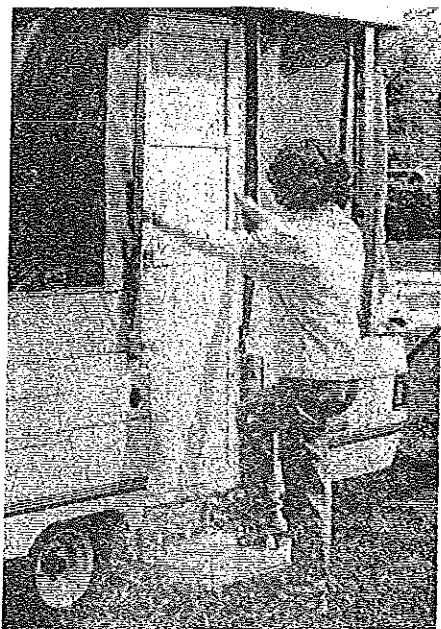

FIGURE 21
26. Grasping the door frame with both hands, one on either side, lower screen door into doorframe track at base of doorway. See Figure 21. Unlock screen door latch and step inside.